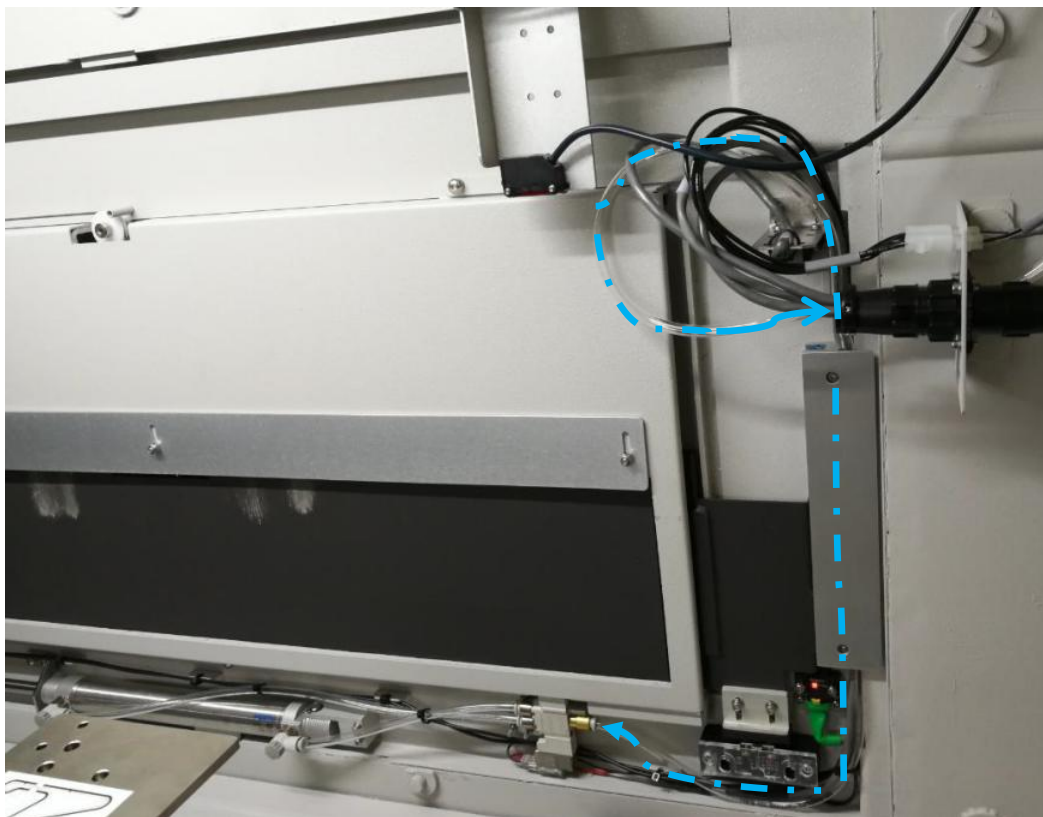

Figure 21
22. Gently route the entire tubing by refer to below route (Blue Highlight). Press & lock the Parker Clip Fitting. May refer to below Figure 21 & 22. Apply necessary cable ties to secure the tubing.